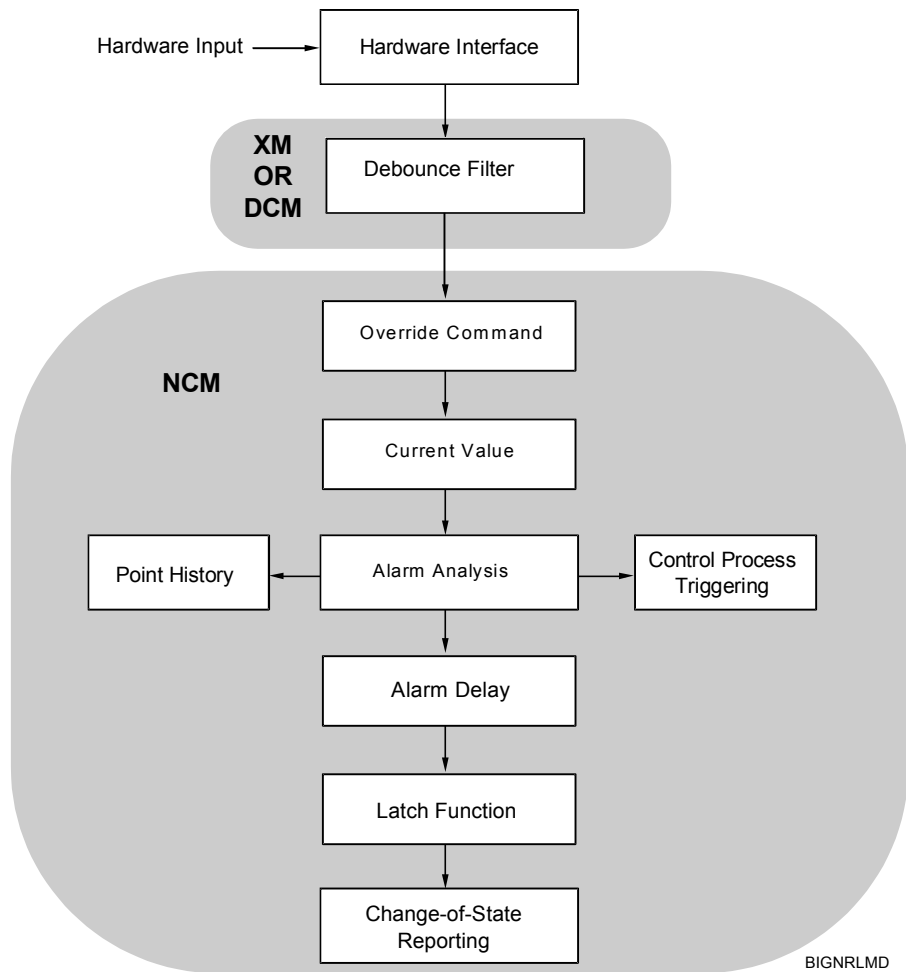

Figure 15: BI General Model
Figure 15 shows a general model of how the BI object operates. For more information, see the *Metasys Network Technical Manual, Software Data Sheets, Binary Input (BI) Object Technical Bulletin*.